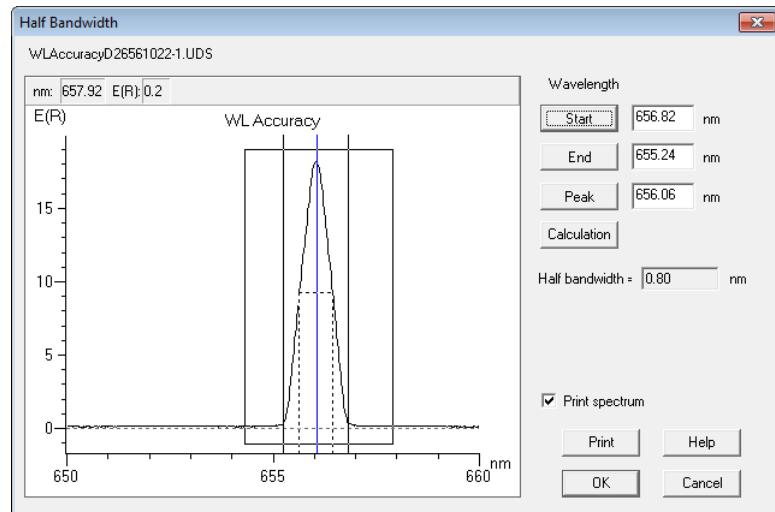

Fig. 5-93
- (1) Left-click on the spectrum and drag the mouse to draw a rectangle as shown in Fig. 5-93 to specify the enlarging area.